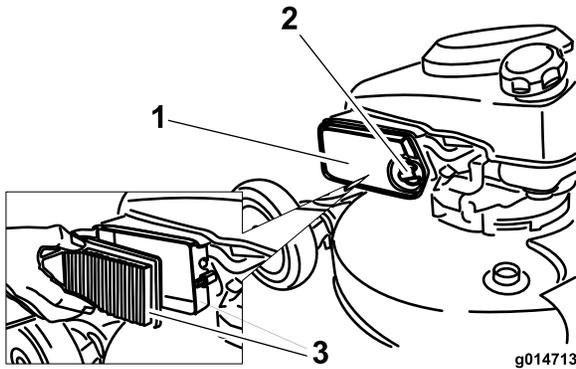

Figure 16
2. Unscrew and open the air cleaner cover (Figure 16).